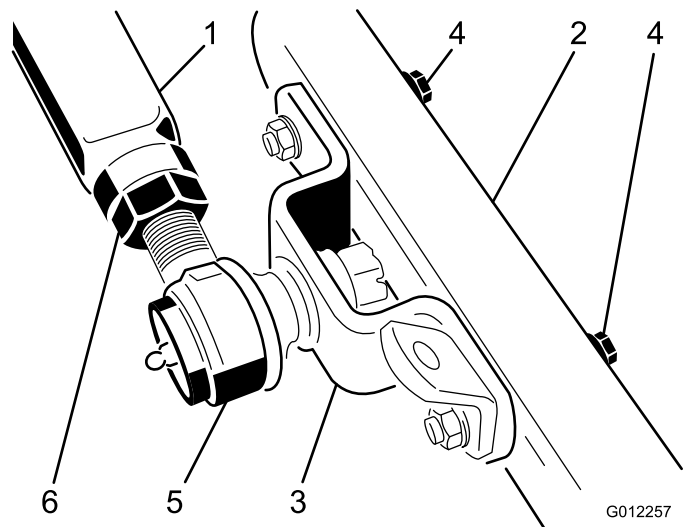

Figure 21
6. Have another person push down on the left push arm while you remove the capscrews, flat washers, and locknuts securing the ball joint mount and chain bracket to the castor arm on the cutting unit (Figure 21). Now the helper can carefully allow the push arm to move upward, which will gradually release the 68 kg (150 pounds) of spring load
5. Have another person carefully push down on the left push arm until the holes in the ball joint mount line up with the holes in the castor arm (Figure 21). Immediately slide a 4 x 4 inch block of wood between the top of the push arm and the underside of the chassis.